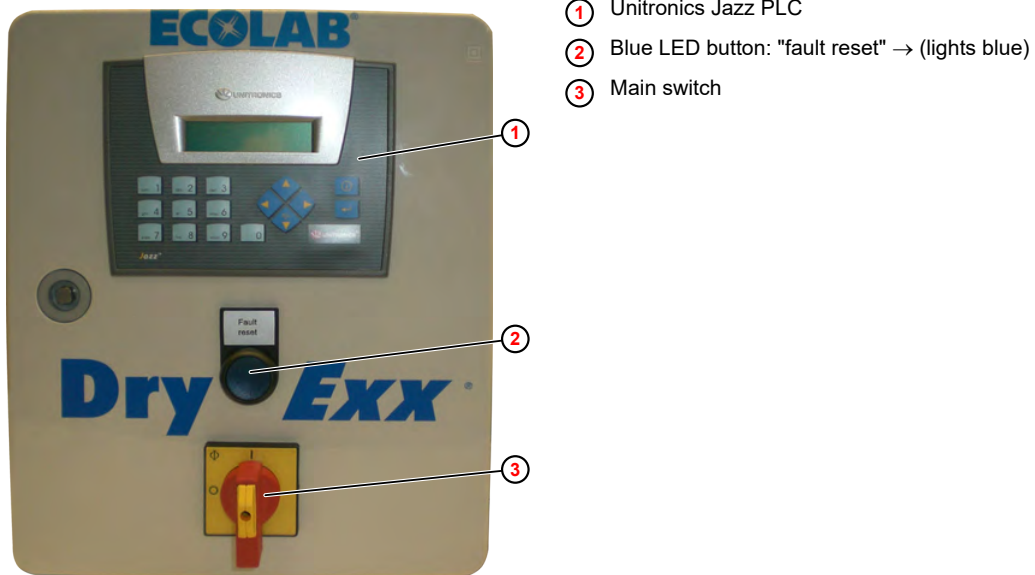

Fig. 9: Switch on the DryExx® Small
1. ➤ Switch off the main switch (Fig. 9 , ③) on the control cabinet.
2. ➤ Switch on the main switch (Fig. 9 , ③) on the control cabinet.
3. ➤ Press the Reset button (Fig. 9 , ②) if necessary.